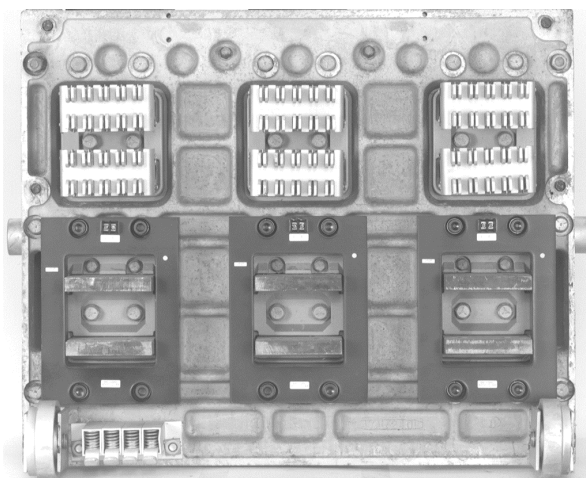

Figure 4. CTs installed on the breaker.
3. Place each of the CTs provided over a load terminal with the wire terminal at the top, as shown in Figure 4.
4. Secure the CTs with the four 1/2-13 x 2 3/4" Allen-head bolts and lock washers provided, as shown in Figure 4.